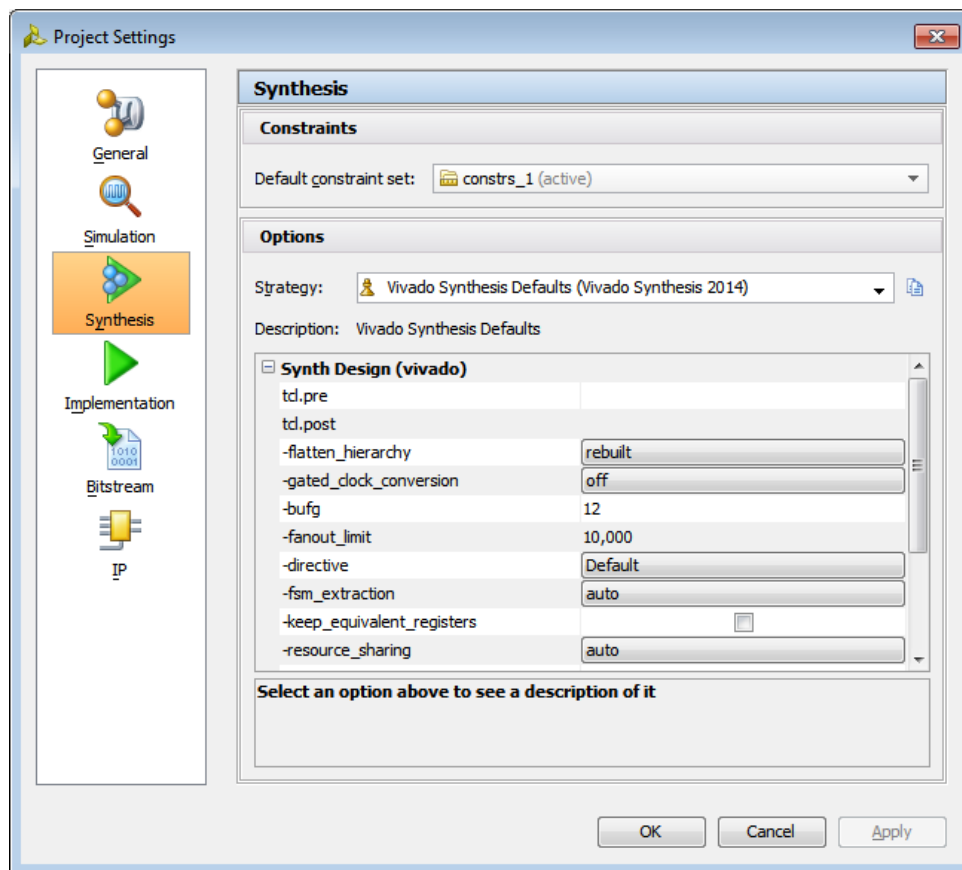

Figure 21: Synthesis Settings
2. After reviewing the various synthesis options, select the **Implementation** button on the left side of the Project Settings dialog box, as shown in Figure 21.